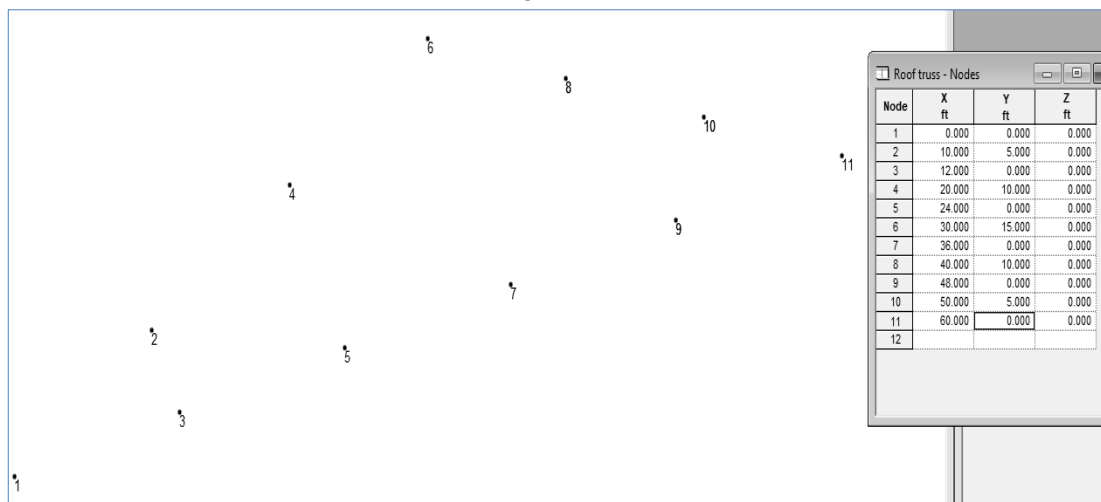
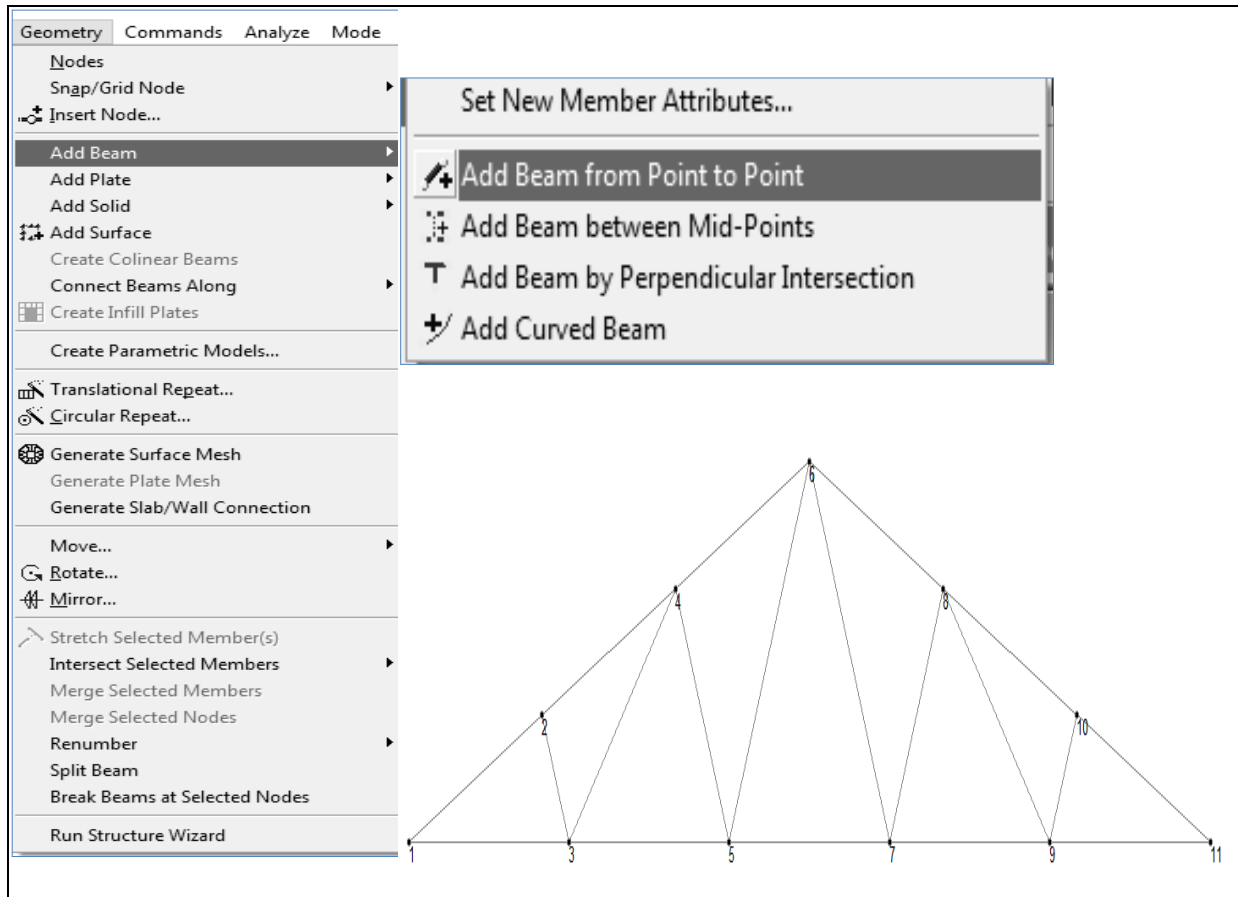

Fig: 4.4
Fig: 4.5
1.2 Now close the Default Grid window → input coordinates value for all nodes like 1st Node point (X=0, Y=0, Z=0), 2nd Node point (X=10, Y=5, Z=0), 3rd Node point (X=12, Y=0, Z=0), 4th Node point (X=20, Y=10, Z=0), 5th Node point (X=24, Y=0, Z=0) and similarly others nodes Then click on Geometry → Add Beam → Add Beam from point to point. (Fig: 4.4) & (Fig: 4.5)